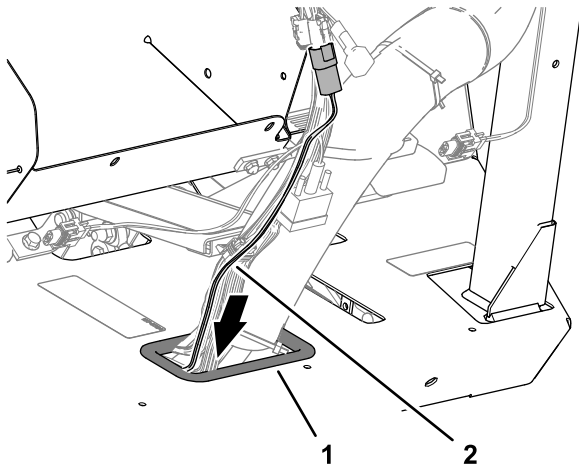

Figure 33
1. Route the other end of the ISO-CAN bus harness through the grommet of the floor (Figure 33).